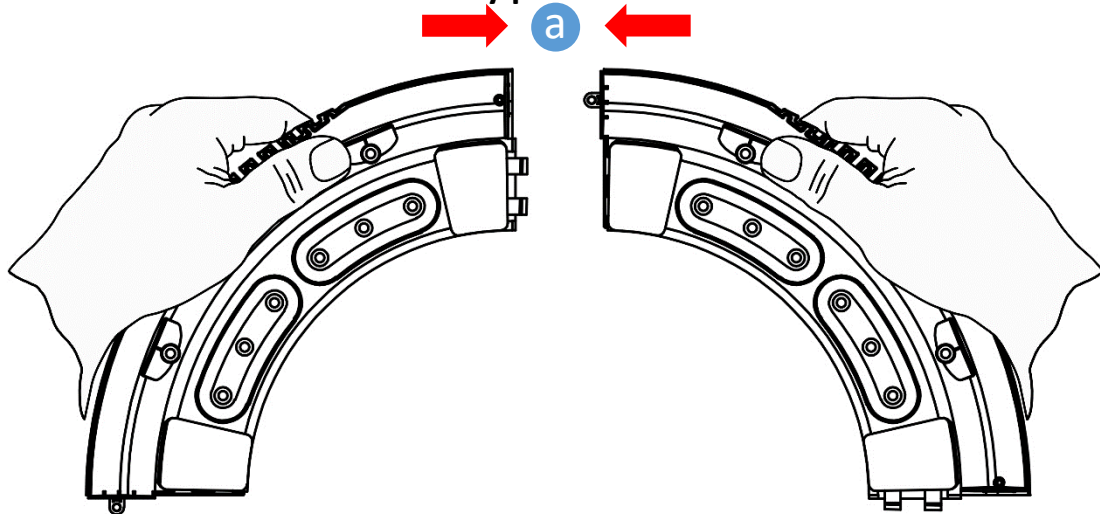
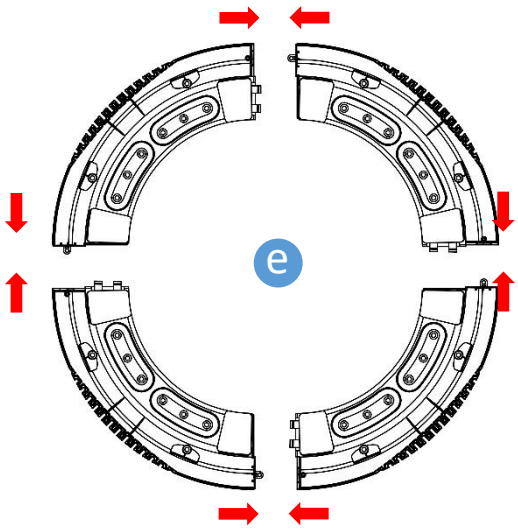

Figure 3
Figure 7
- ① As shown in figure 3, 4 ,5. select any two pieces, with the bottom facing up, buckle the hole and press hard in the direction of the arrow until it is fastened.
- ③ As shown in figure 7, the four pieces are buckled one by one according to the method shown in figure 3, 4 ,5.